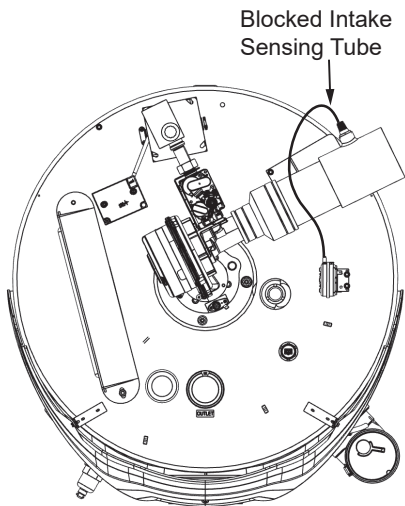

Figure 27. Blocked Intake Air Switch Sensing Tube
2. Disconnect the blocked intake-air switch sensing tube. See **Figure 27** for the location.